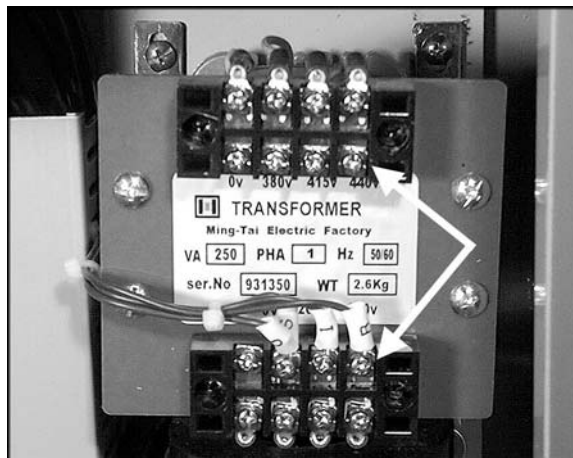

Figure 6
2. In the electrical cabinet, switch the “R” wire on the transformer from the 220V to the 440V terminal. See Figure 6. (Refer to the wiring diagram on the inside cover of the electrical box for clarification.)